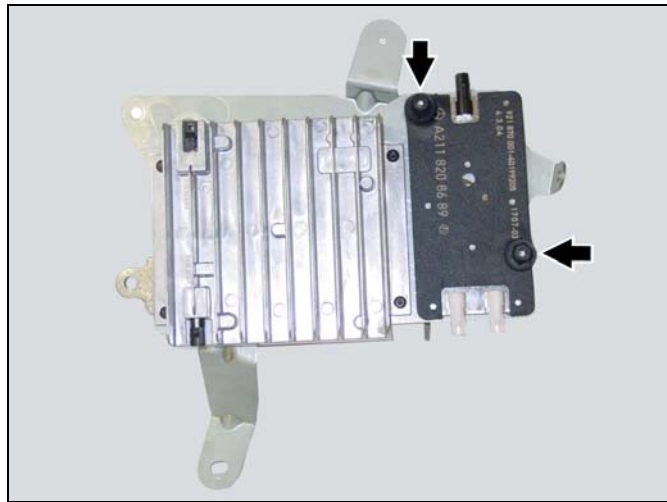

Figure 6
2. Mount the antenna splitter removed in Section A, step 8 to the bracket with two kit-included, M10 plastic nuts (Figure 6).